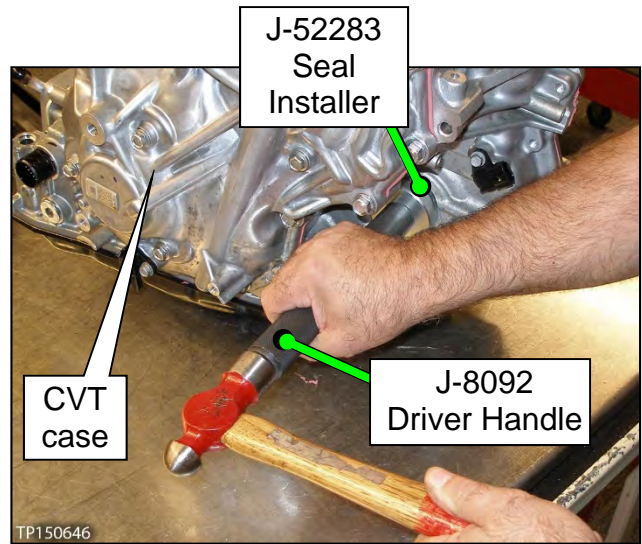

Figure 110
86. Install the CVT case side axle seal (Figure 110).